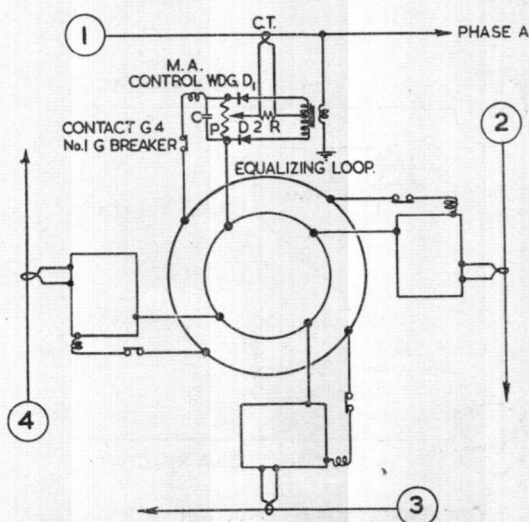

Fig. 7. Real load sharing circuit
35. A simplified diagram of the real load sharing circuit is shown in fig. 7. The potential divider "P" is connected via "D.1" and "D.2" to the secondary of the single-phase transformer, whose primary is between phase A and earth. The electrical centre of "P" is connected to the transformer centre tap through resistor "R," and the current transformer is connected across the resistor.